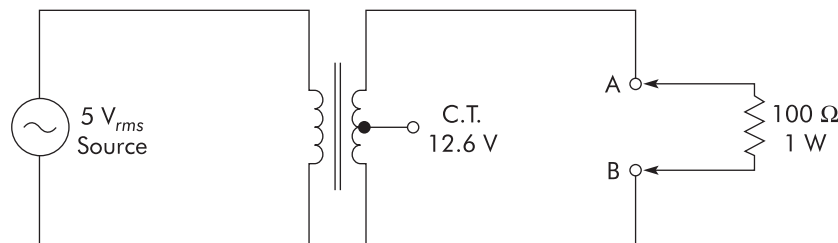

FIGURE 45-2 Loaded transformer
3. Connect a 100- Ω , 1-W resistor between points A and B as shown in Figure 45-2. Use Ohm's Law to determine the secondary current.
Using the secondary current previously determined in Figure 45-2, step 3, and the current ratio just calculated, what is the approximate primary current value?